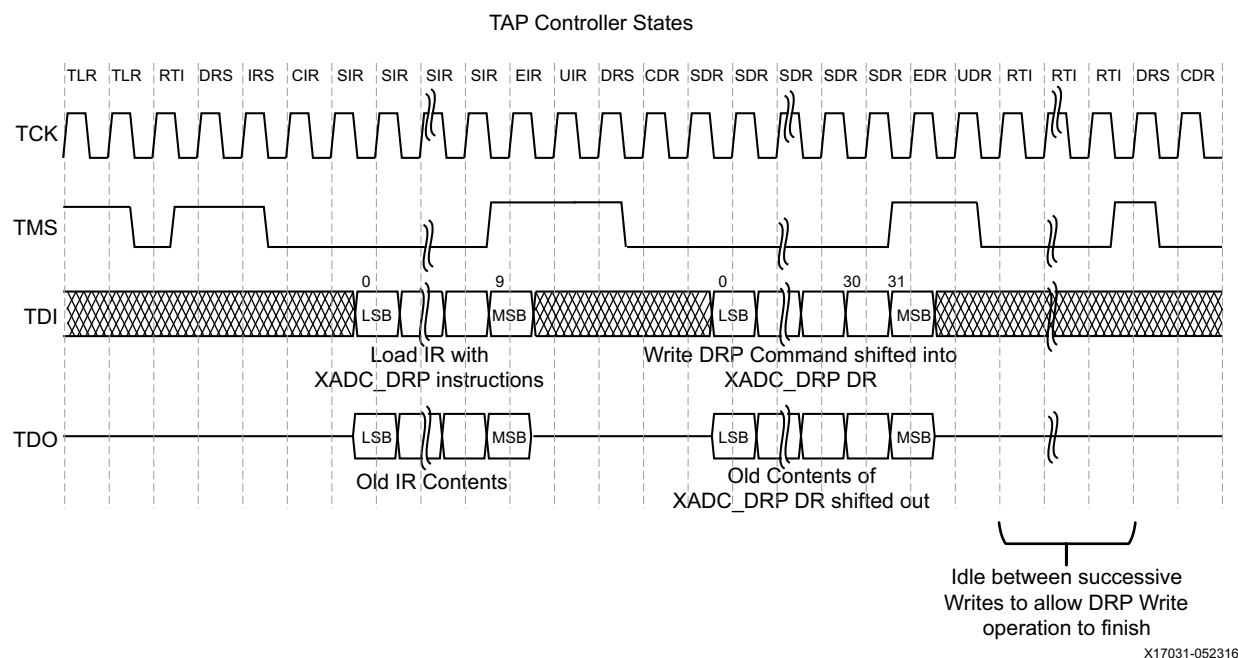

Figure 3-5: XADC JTAG DRP Write
Figure 3-5 shows a timing diagram for a write operation to the XADC DRP through the JTAG TAP. The DRP is accessed through the XADC data register (XADC DR). Before the XADC DR is accessed, the instruction register (IR) must first be loaded with the XADC instruction. The controller is placed in the IR-scan mode, and the XADC instruction is shifted to the IR.
If multiple writes to the XADC DR are occurring, it might be necessary to idle the TAP controller for several TCK cycles by adding RTI states before advancing to the next write operation (see Figure 3-5). If the $F_{\text{DRP_DCLK}}$ or $F_{\text{JTAG_TCK}}$ are constrained to a fixed frequency, then Equation 3-1 can be used to determine the number of RTI wait cycles required between JTAG transactions. For example, when $F_{\text{DRP_DCLK}} = 20 \text{ MHz}$ and $F_{\text{JTAG_TCK}} = 25 \text{ MHz}$, 10 RTI states are required.